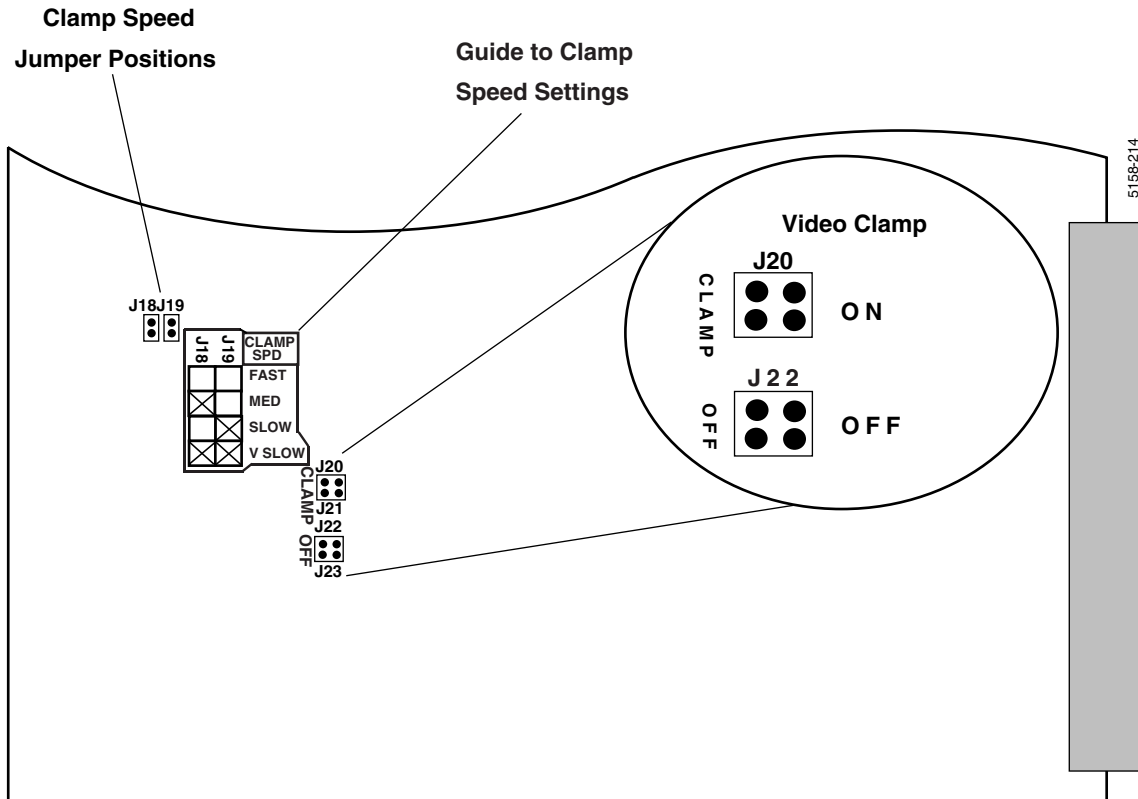

Figure 2-57. Video Output Clamp On/Off and Clamp Speed Jumpers
**Note** Check to see whether your system is equipped with #160097-01 or #160097-02 modules before making this jumper setting. If you have a -02 module, it has Video Clamp circuitry instead of DC Restore circuitry. Refer to Figure 2-57 on page 2-62 for details on making Video Clamp settings.
On the later-generation Video/Audio Output board (#160097-02), when jumper J20 is set to ON, the video output signal is fixed to a DC reference voltage using a sampled video clamp. To set fast, medium, slow, and very slow clamping speeds, adjust the jumpers on J18 and J19, as shown on the guide that is silk-screened onto the board. Figure 2-57 illustrates the location of the on/off and speed setting jumpers.